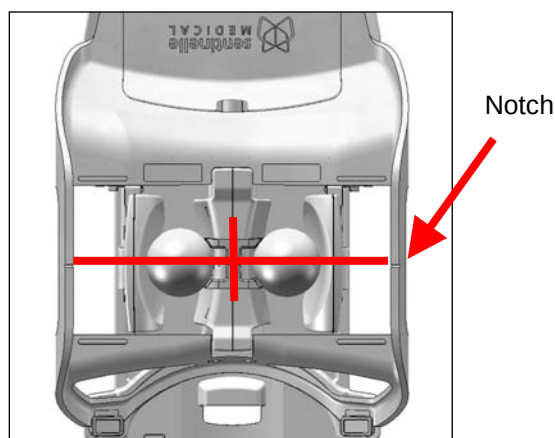

Figure 27: 16 Channel - Landmark Phantoms
5. Landmark using the notch on the edge of the patient support as shown in Figure 27.